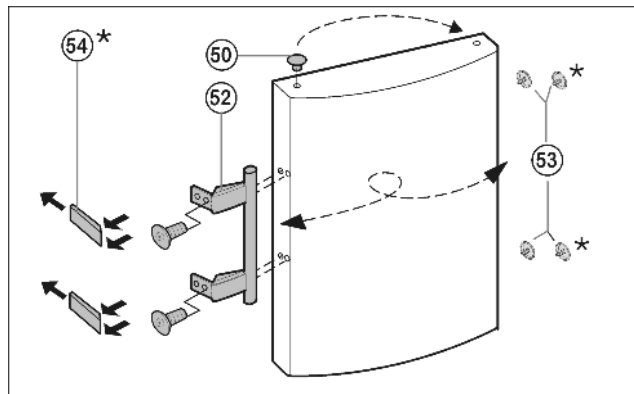

Fig. 14
- ▶ Lift the stopper Fig. 14 (50) out of the door bearing bush and transfer it.
- ▶ Detach door handle Fig. 14 (52), stopper Fig. 14 (53) and pressure plates Fig. 14 (54) and transfer to the opposite side.